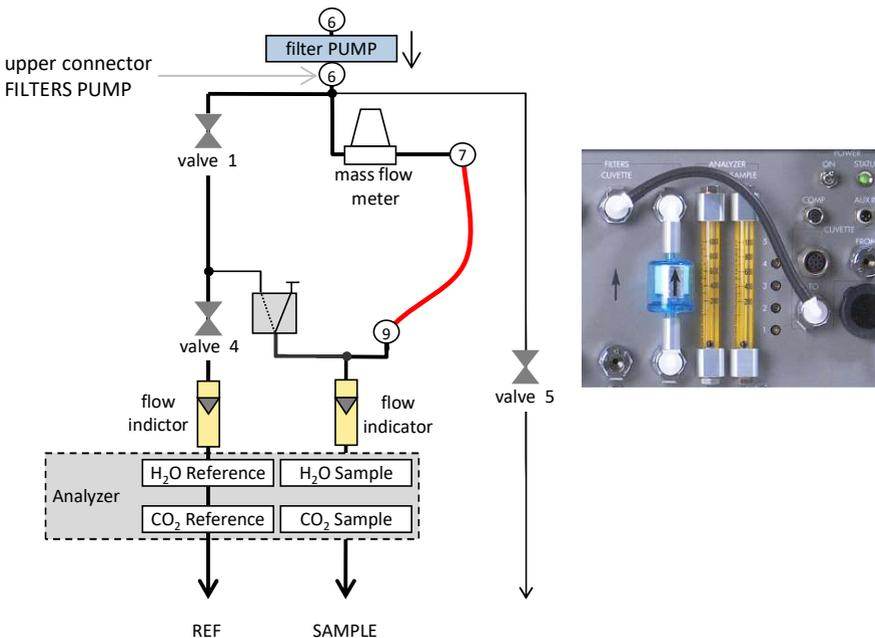

Fig. 57: Gas pathway in the down-stream section during calibration
A short pneumatic path is advantageous for all calibrations of the gas analyzer. This can be achieved by connecting the CUVETTE TO connector to the upper FILTERS CUVETTE connector (see red line 7 to 9 in Fig. 57). It may also be advantageous to close valve 5. But with the exception of the H2O span calibration, the advantage is minimal. Nevertheless, all connected paths should be purged briefly with the current calibration gas. This can be achieved by briefly opening valve 5 and briefly switching to ZP mode. The calibration itself must be carried out in MP mode when using the setup shown in Fig. 57.
- Connect the CUVETTE TO connector to the upper FILTERS CUVETTE connector (see red line 7 to 9 and picture in Fig. 57).
- Any connected paths should be purged briefly with CO2 free gas. Open valve 5 briefly, if it has been closed. Also, the mode will briefly be switched to ZP mode (see Fig. 57).
- Connect the CUVETTE TO connector to the upper FILTERS CUVETTE connector (see red line and picture in Fig. 57).
- Close the upper connector labeled DRIER, connect the CUVETTE TO connector to the upper FILTERS CUVETTE connector (see red line and picture in Fig. 57).